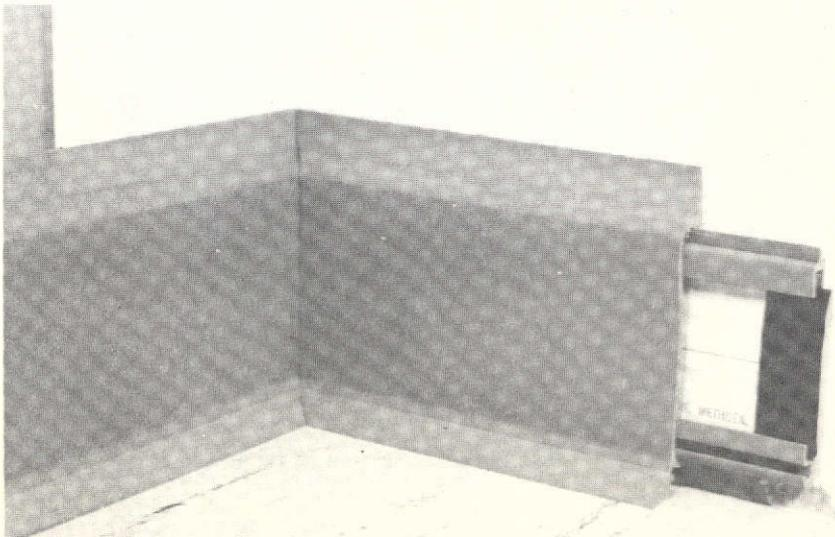

Figure 26. Without End Cap Installed
2. The back channel should protrude 1-1 1/2 inches past the front cover thus allowing room to snap the end cap on. However, the end of the back channel should lack approximately 1/2" butting into an adjacent wall or from where end cap should stop. See Figures 26 and 27.